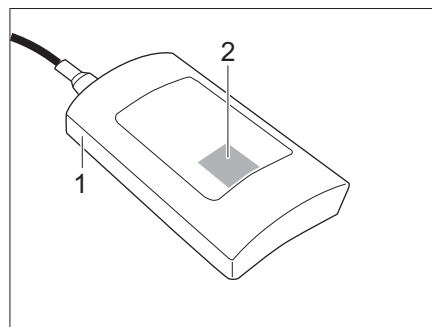

Fig. 101 Control box
- Scan QR code (Fig. 101,2) on the control box (Fig. 101,1).
- ▷ The control box (Fig. 101,1) is accessible in the bow of the vehicle.